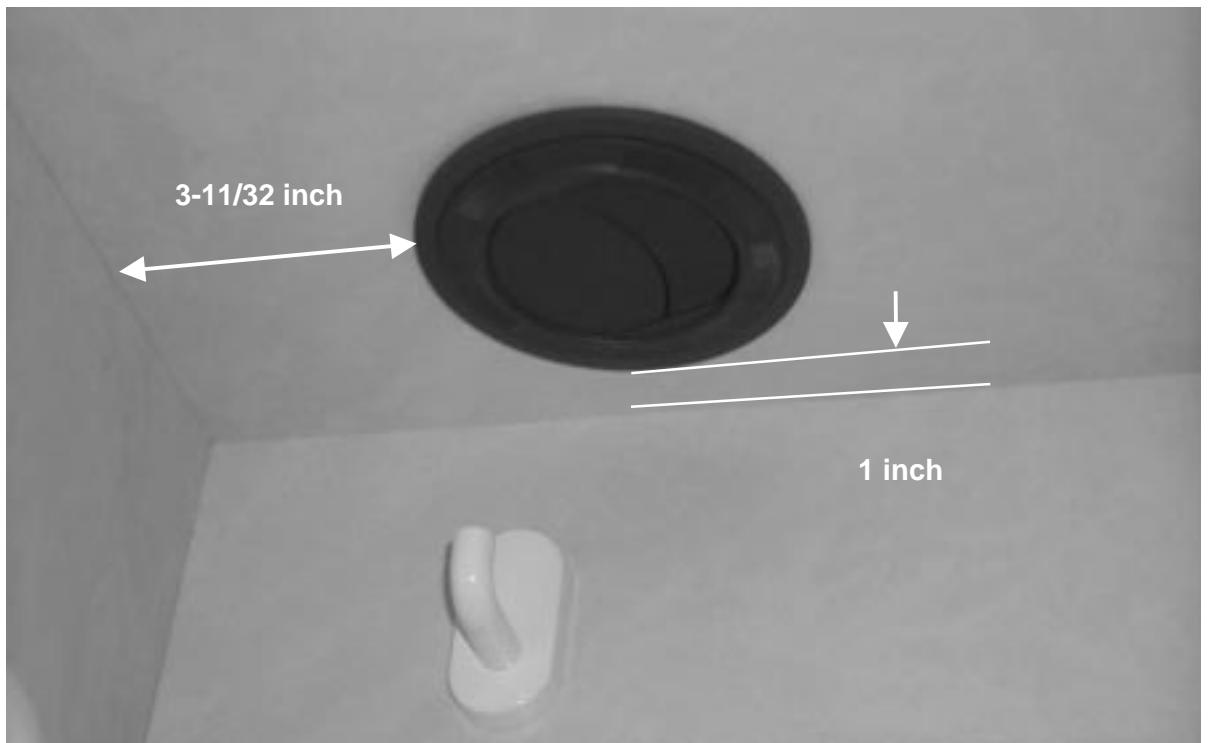

Figure 21: Installation dimensions for air outlet in restroom roof
- 2) In the restroom, cover the area where the air outlet will be installed with masking tape (see Figure 21). Cut a hole through the tape and the ceiling using a 3-inch hole saw. Remove the tape once the hole is finished.